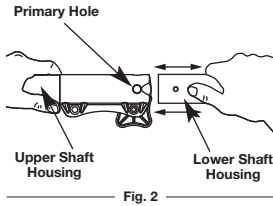

Fig. 2
3. While firmly holding the upper shaft housing, pull the add-on straight out of the EZ-Link™ coupler (Fig. 2).
2. While firmly holding the add-on, push it straight into the EZ-Link™ coupler (Fig. 2).
CAUTION: Lock the release button in the primary hole (Fig. 2) and securely tighten the knob before operating this unit.